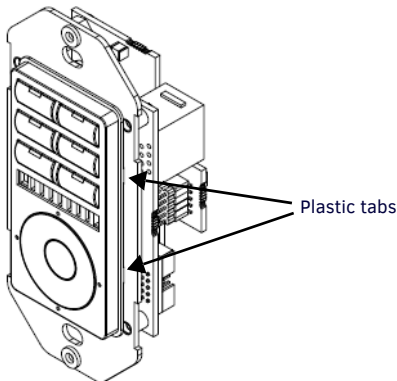

FIG. 1 LOCATION OF THE PLASTIC TABS ON THE MET-6NE
4. The faceplate is attached to the mounting plate via four plastic tabs (two on each side of the faceplate, see FIG. 1). To remove the faceplate, gently pry it from either side.